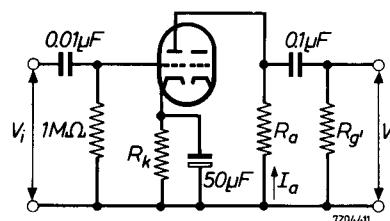

Fig. 1
OPERATING CHARACTERISTICSA.F. amplifier - circuit fig.1
A.F. amplifier - circuit fig.1 (continued)